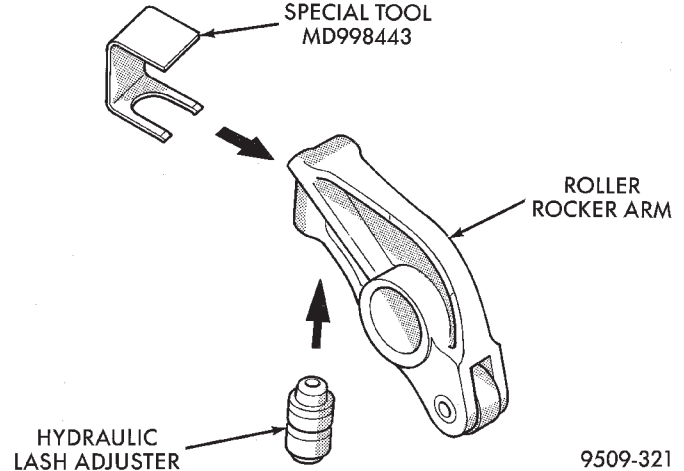

Fig. 49 Retainer Auto Lash Adjuster
(1) Remove intake manifold/plenum and cylinder head covers. Refer to procedures in this section.
(2) Install auto lash adjuster retainers Special Tool MD-998443 (Fig. 49). These retainers hold the lash adjuster into position when the rocker arms are serviced.